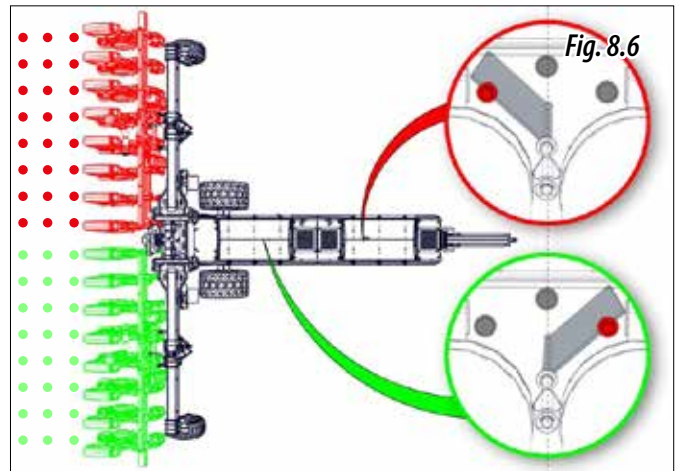

Fig. 8.6
- **FERTILIZER / FERTILIZER** (Fig. 8.6).
- 4- Once the trap has been positioned in the new configuration, lock it using the screw and the washers, place the plugs in the 2 holes that have been left open (Fig. 8.6, 8.7 o 8.8)